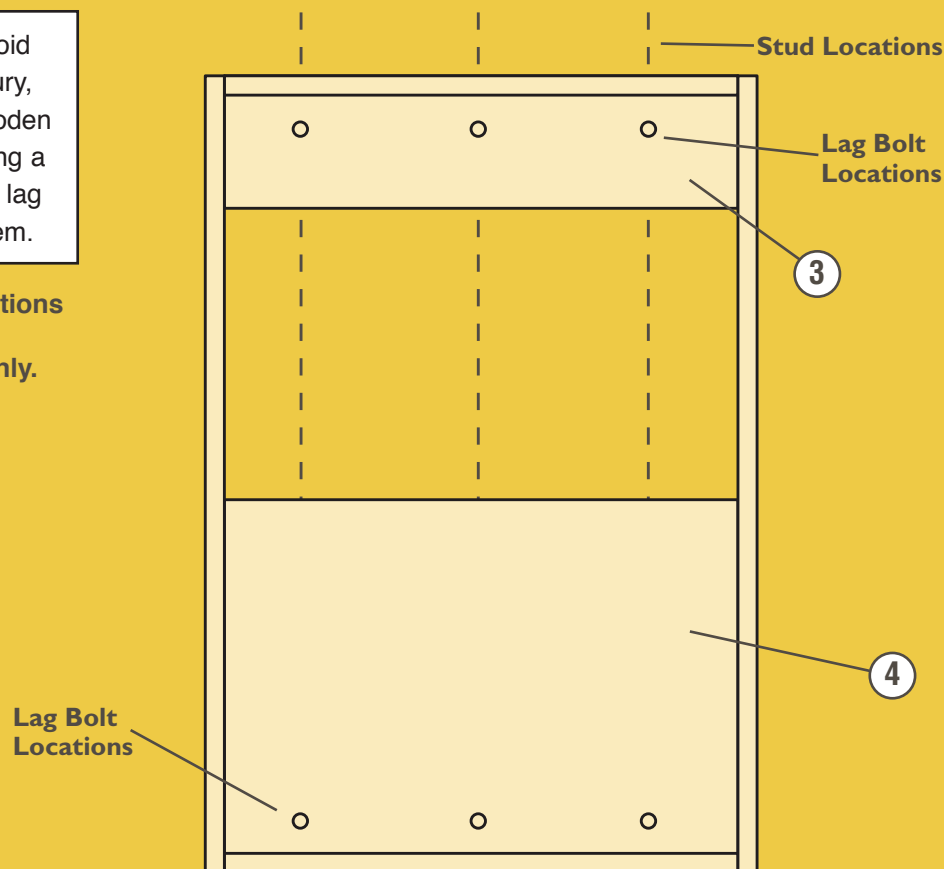

Fig. 4
- > Cabinets for Twin and Full beds **MUST** be secured, using all required hardware, to at least two (2) wall studs; cabinets for Queen beds **MUST** be secured to at least three (3) wall studs.
- > All 1/4" x 3" Washer Head Lag Bolts (KK) **MUST** be secured into wooden wall studs. Failure to secure the unit into wooden wall studs increases the chance that the bed cabinet will detach and tip over, potentially resulting in serious injury.
4. Make a cross mark at each stud location 3" down from the top of the Upper Headboard (3) and 3" up from the bottom of the Lower Headboard (4). Drill 3/16" diameter pilot holes through the headboards and into the wall and studs. **Fig. 4.**